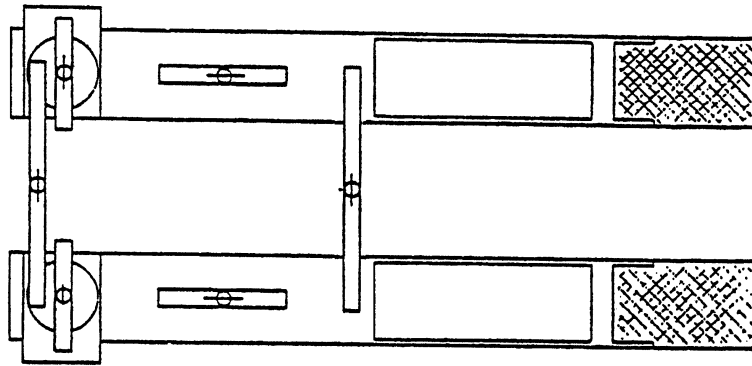

Figure 7. Deck leveling
- Check and adjust the decks for level using the 4' level. Adjusting screw and jam nuts should be adjusted until each corner of lift is level. Make sure jam nuts are tightened after levelling. Both the front turn plate cutouts and rear slip plates should be checked. Refer to **Figure 7.**